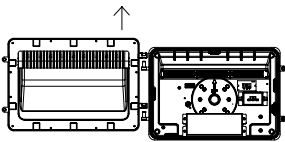

Figure 2
3. Open the fixture, and remove the upper cover of the fixture. (Figure 2)